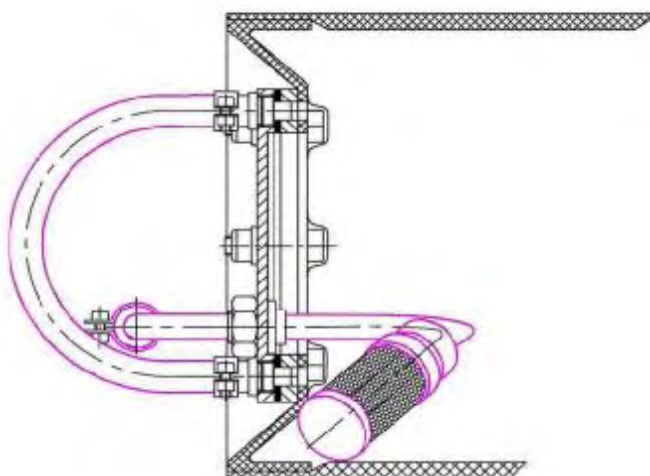

Fig. 4
- Get the 6 nuts C9996334 (Self-locking nut) DIN 985-M6 on the access panel KA7020002R (L) (Cap plate) unscrewed 1-2 turn and then unscrew them fully;
- Remove the fuel tank access panel KA7020002R (L);
- Ensure integrity of the filter mesh KA7020030R(L) and no foreign objects inside and on the surface of the mesh. Replace if necessary;
- Install the access panel KA7020002R (L);
- Make sure the fuel filter is turned towards the trailing edge of the wing (Fig. 3) and is in the lowest position (lays on the bottom skin) (Fig. 4.);